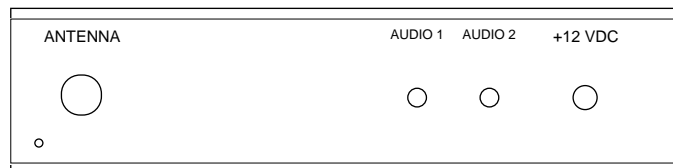

Figure 7. Rear panel
3. ☐ Orient the rear panel on a flat surface with the large hole for the antenna connector to the left (Figure 7). The small screw hole should be below and to the left of the antenna connector hole. Peel the rear decal from its backing and apply to the rear panel.